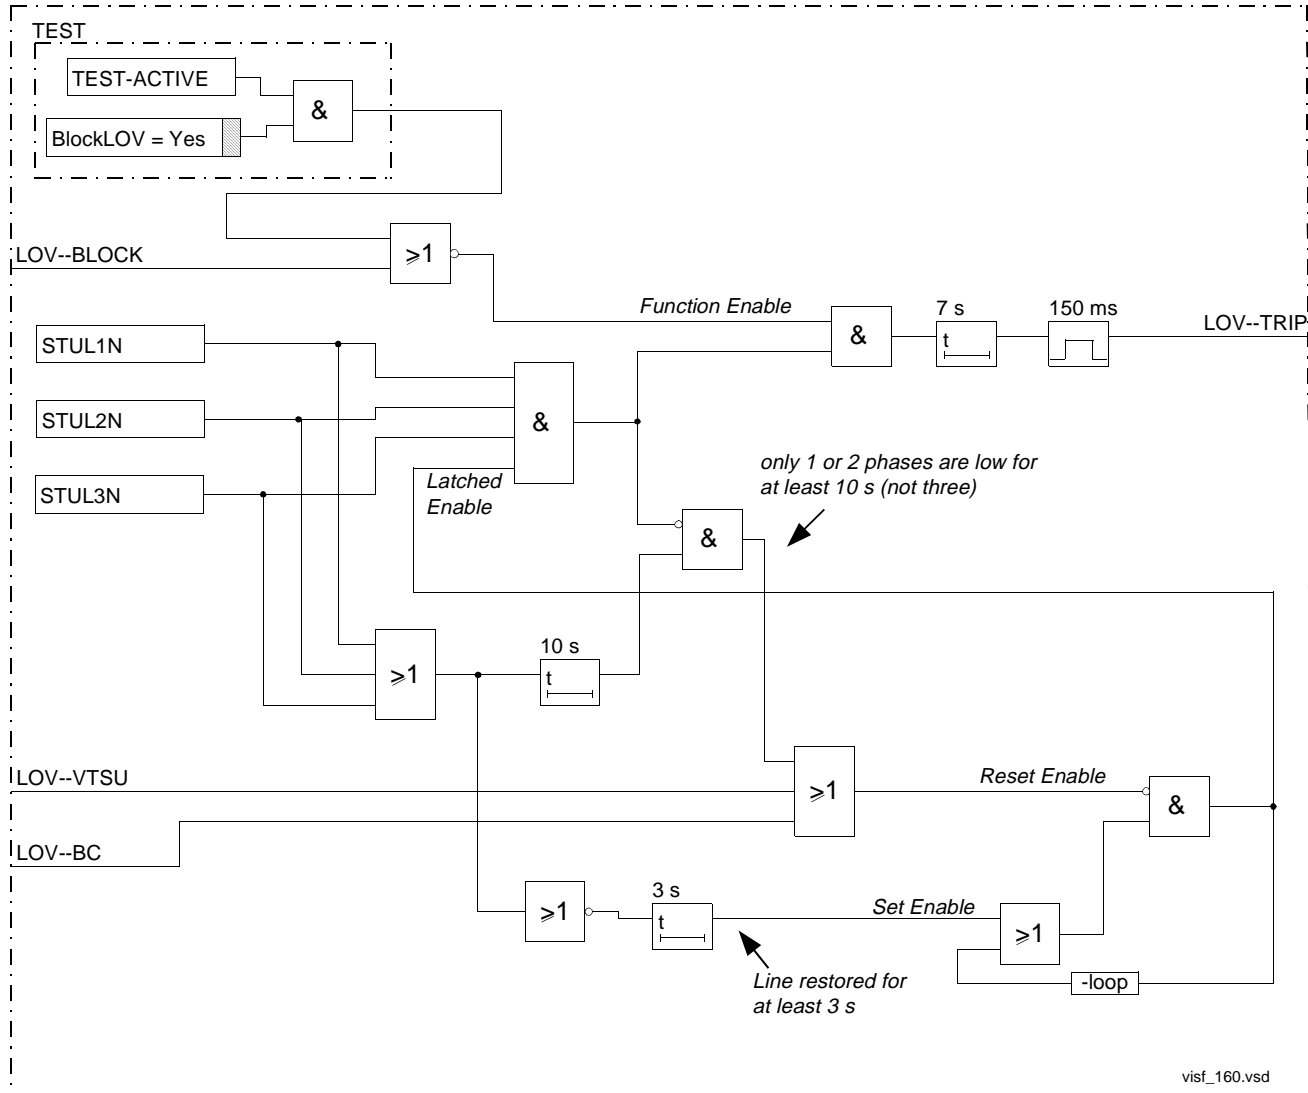

Figure 1: Simplified logic diagram of loss of voltage check protection function
The simplified logic diagram of the stub protection function is shown in figure 1.
- enables the function (signal latched enable in figure 1 is set to 1) when the line is restored; i.e. at least one of the three voltages is high for more than 3 seconds (signal set enable in figure 1).
- disables the function (signal latched enable in figure 1 is set to 0) if the signal reset enable in figure 1 is set to 1 (reset of latced enable signal).